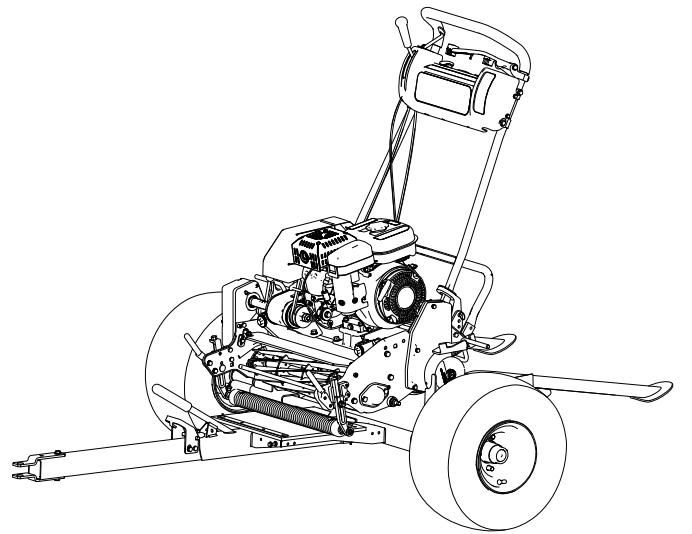

Figure 12
3. Remove the basket from the greens mower, disengage the reel drive, and move the throttle to the slowest position. **Slowly** drive the greens mower onto the trailer until you contact the wheel stops (Figure 12).